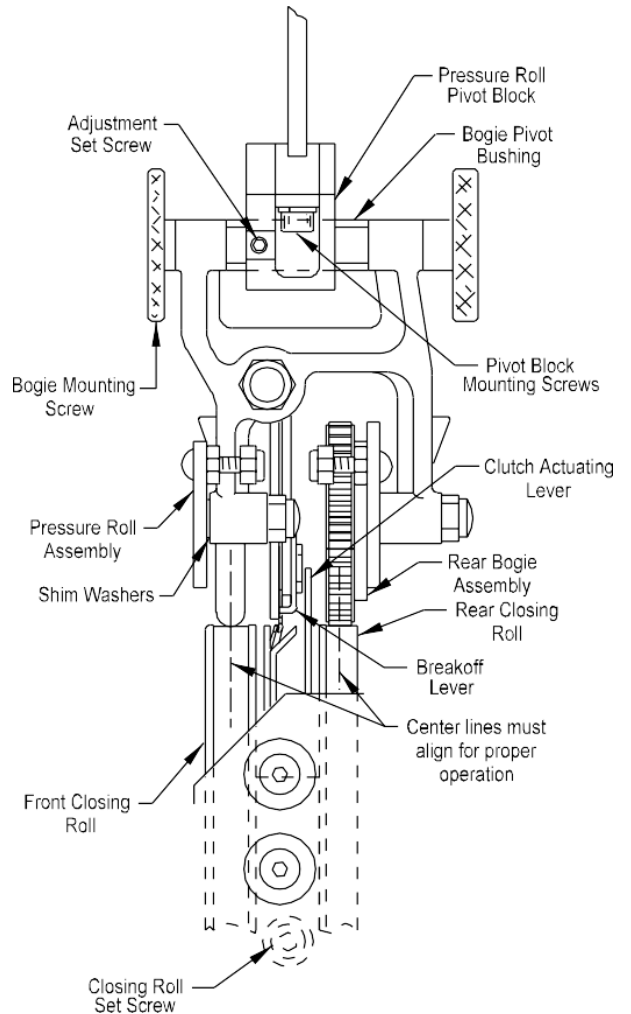

Figure 5.9
I. BOGIE TRACKING ALIGNMENT WITH CLOSING ROLL: (Figure 5.9)
J. CLOSING ROLL: (Figure 5.9)
K. BOGIE ASSEMBLY LATERAL ADJUSTMENT: (Figure 5.9)